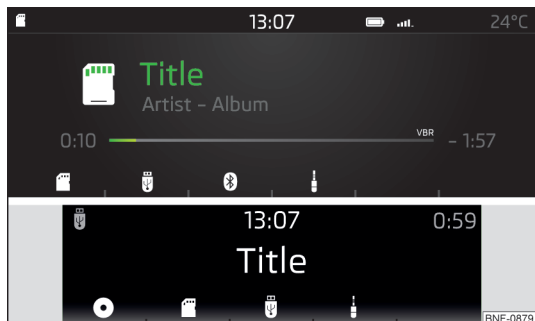

Fig. 105
- To **select audio from the main menu** mediapress the button **MEDIA** and select the desired source using the function buttons» Fig. 105.